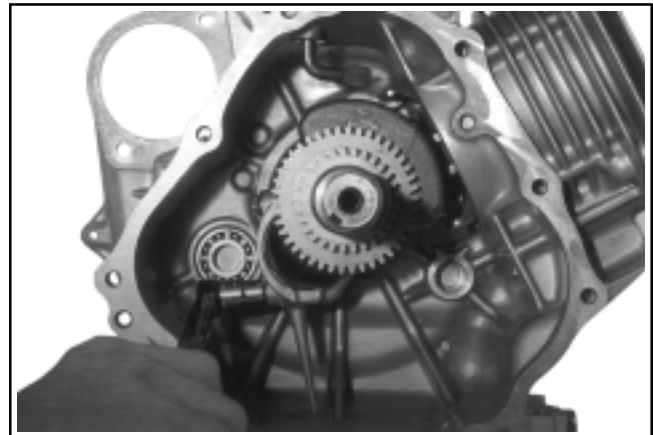

Figure 11-14. Rod Cap/Dipper Position.
6. Install the connecting rod cap to the connecting rod so the dipper is down, and the match marks are aligned. See Figure 11-14.